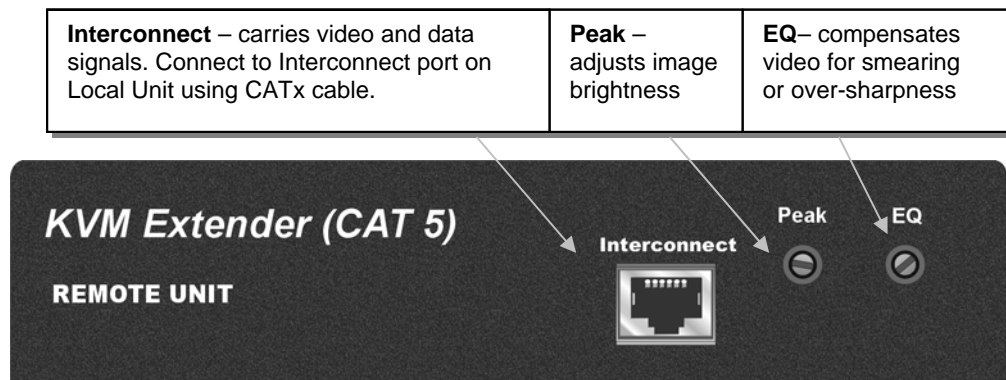

Figure 5 *SDLink Remote Unit - front view*
4. Connect the CATx cable to the INTERCONNECT socket on the front of the Remote Unit as shown in Figure 5.